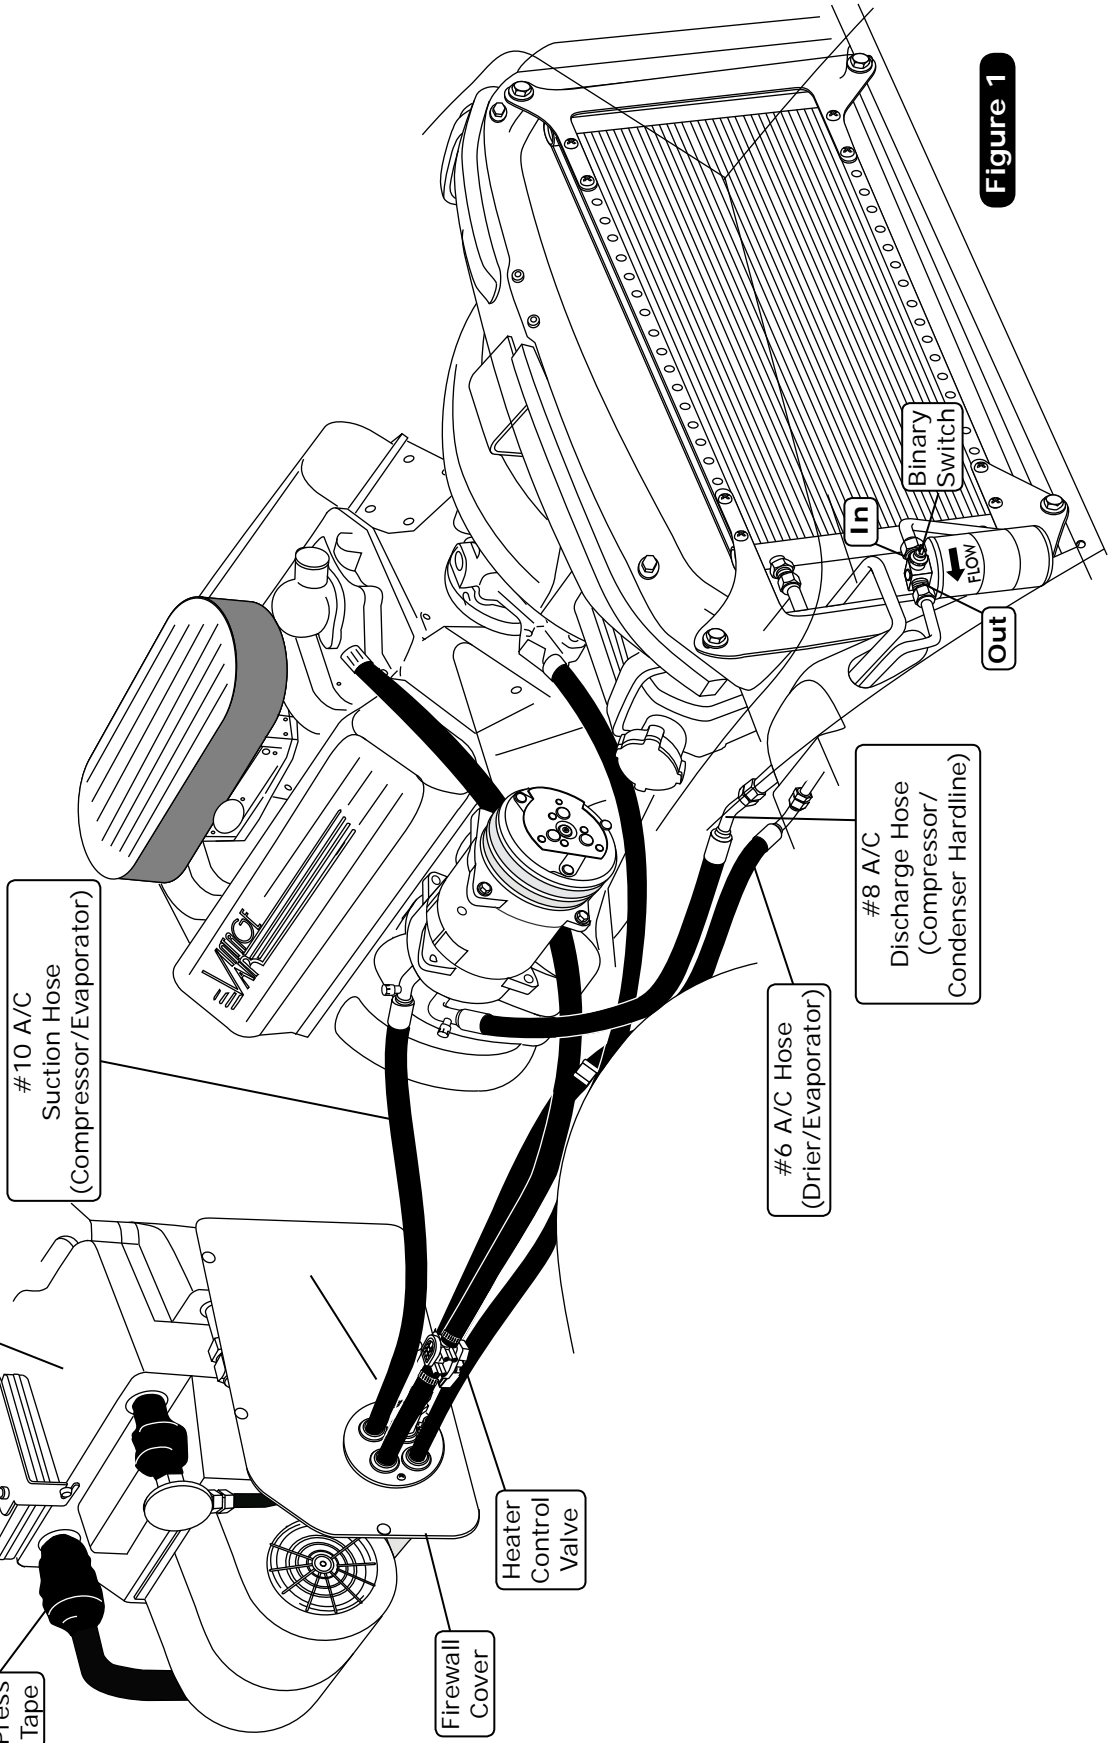

Figure 1
2. Install the duct hoses as shown in Figure 1, Page 27.
3. Route (2) 11" tie wraps through the steering column mounting bracket as shown in Photo 3, below.
7. Install the supplied glove box using (6) OEM screws (See Photo 2, below).